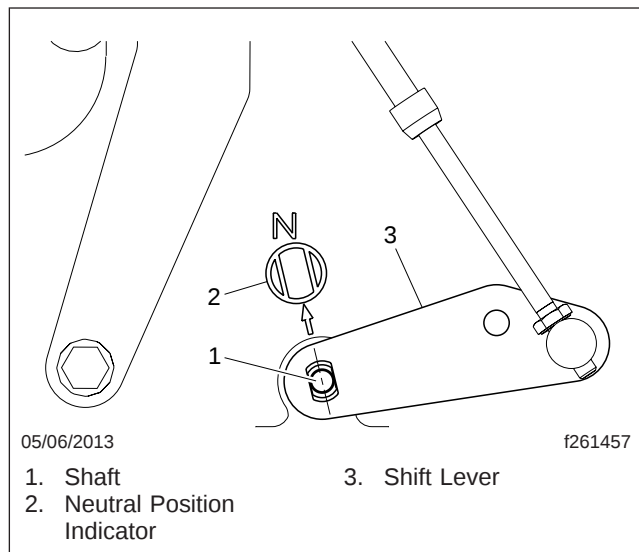

Fig. 7, Neutral Position Indicator
13. Make sure the shift control on the dash is set to "Neutral", and the shift lever on the transmission is in the "Neutral" position, as determined by the orientation of the shift lever shaft and the neutral position indicator. See Fig. 7.